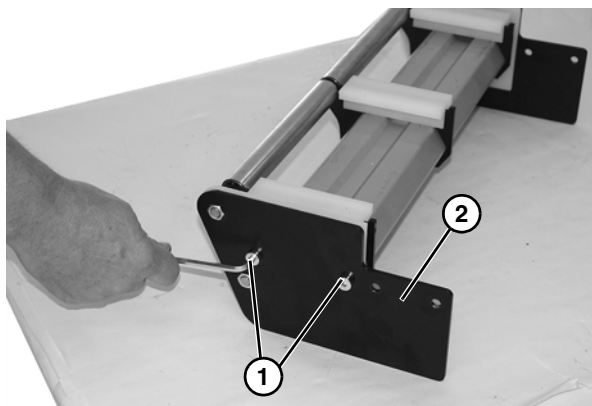

Figure 65
4. Remove two low head cap screws (**Figure 65, item 1**) from plate (**Figure 65, item 2**). Repeat procedure on opposite side.